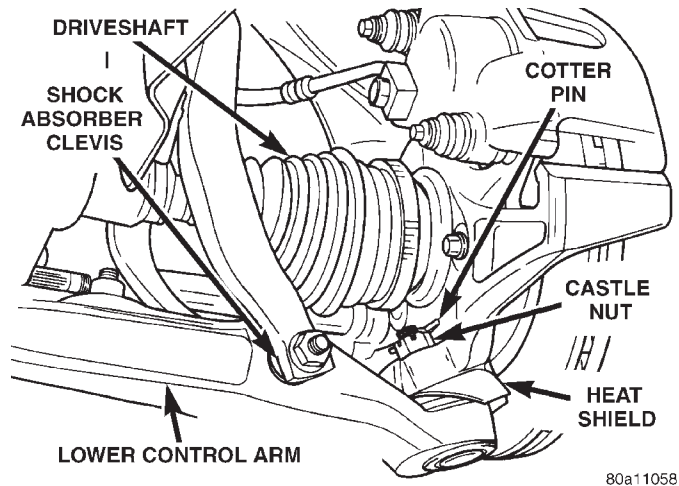

Fig. 67 Lower Ball Joint Attachment To Steering Knuckle
(12) Remove cotter pin and castle nut (Fig. 67) from the stud of the lower ball joint.